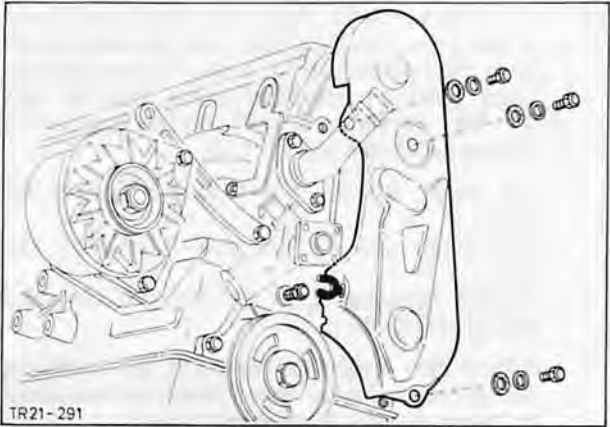

Fig. 116. Fit toothed belt guard
57. Slide thrust washer and crankshaft pulley into position. Torque crankshaft pulley and auxiliary shaft toothed belt pulley as specified in Technical Data. Fit toothed belt guard, Fig. 116.